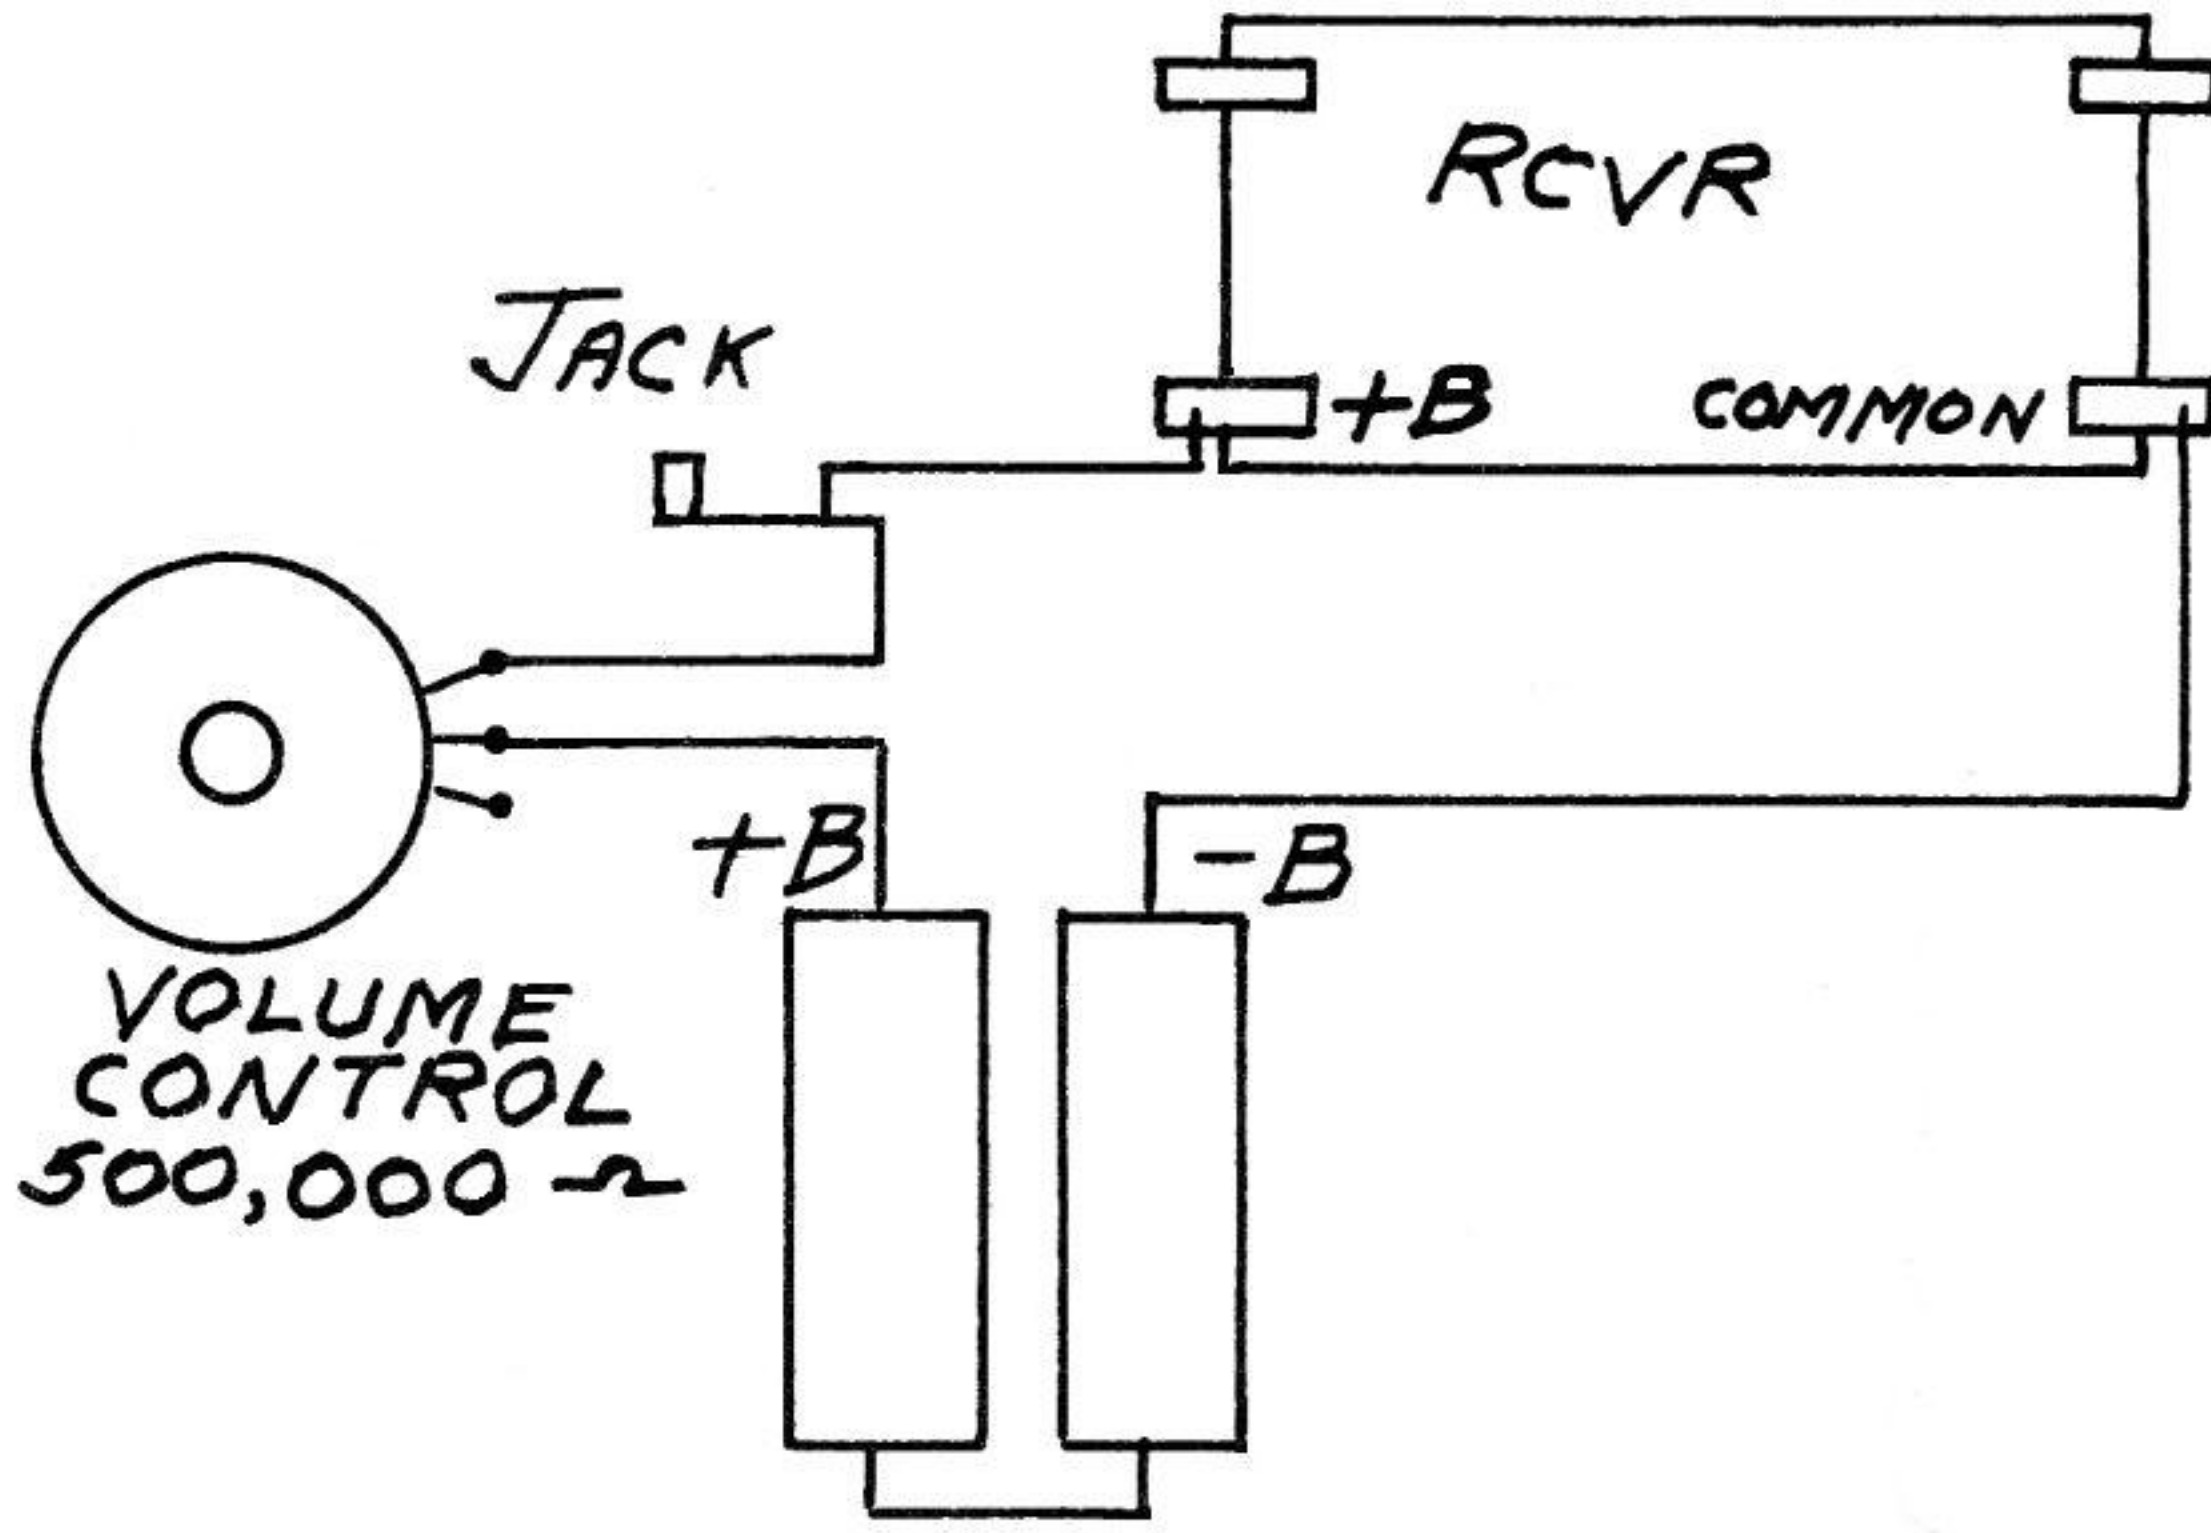

FIG 9
- 6.3 To check the relay operation, or to further adjust it, proceed as follows. Obtain a volume control such as used in a radio set with a value of 500,000 ohms. Wire it in series with the plus B lead. (Figure 9.) With all the resistance out, turn on the receiver and transmitter and cause the plate current to rise to its maximum of 1.0 m. a. or more. With both receiver and transmitter still turned on, turn the volume control to introduce resistance and the plate current will decrease. The exact value at which the relay drops out can be observed by the action of the escapement or any other indicator across the contacts. Reversing the direction of rotation of the volume control will again increase the current and the exact value at which the relay pulls in can be observed. These values should be between 0.23 and 0.34 for the drop out and 0.35 and 0.45 for the pull in. To any person qualified to make this test, the adjustment of the relay should be obvious.